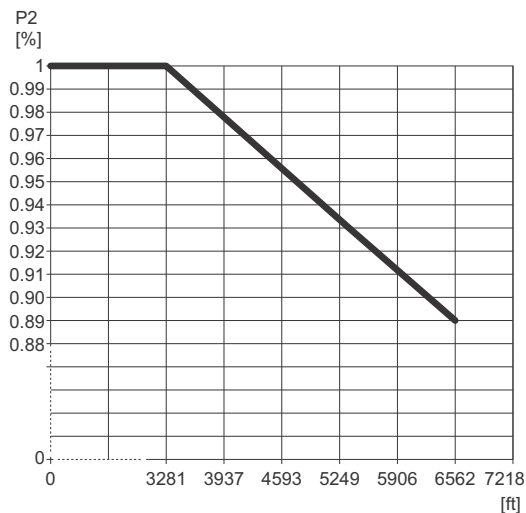

Fig. 75 Derating of motor output power (P2) in relation to altitude above sea level
- Motors installed more than 3280 ft (1000 meters) above sea level must not be fully loaded due to the low density and consequent low cooling effect of the air. See fig. 75.